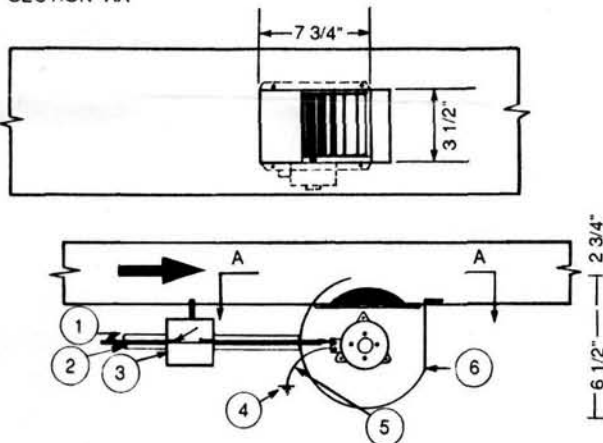

FIGURE 1
- A. By using an on/off switch and power source of 120V, 60Hz (Fig. 1)
- C. By using a thermostat and a power source of 120V, 60Hz. The thermostat should be on the duct between Booster Fan and furnace; this way when the furnace provides warm air the duct thermostat is turned on and the Booster Fan gets started (FIG 1)